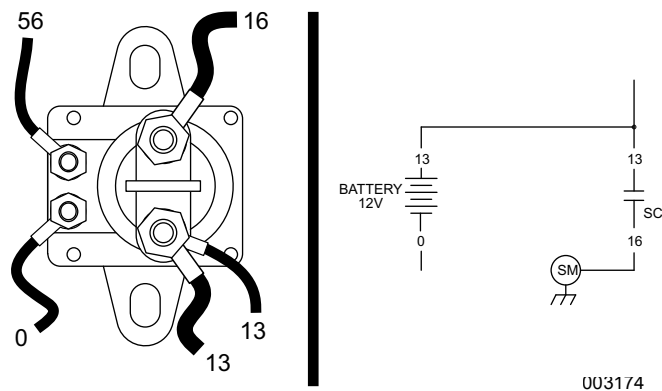

Figure 4-7. The Starter Contactor (Single Cylinder Units)
See Figure 4-7. The Starter Contactor (SC) is located in the engine compartment and is mounted against the firewall. The SC provides the electrical connection to safely engage the starter.